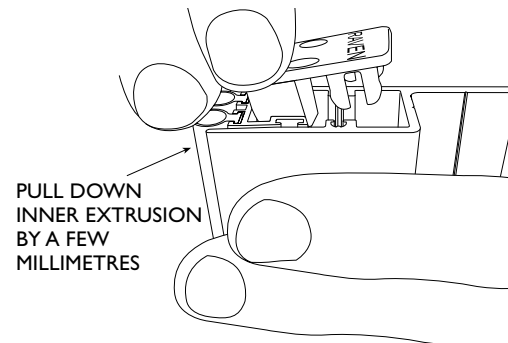

FIG. 6
STEP 9 For soft timber stops, position striker button where adjustment block meets door stop. (FIG.6)